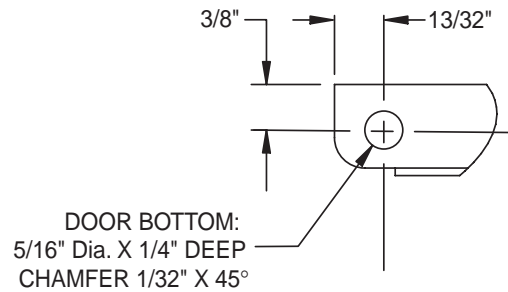

Figure 3C
5. Drill hole for lower door hinge (**Figure 3C**).